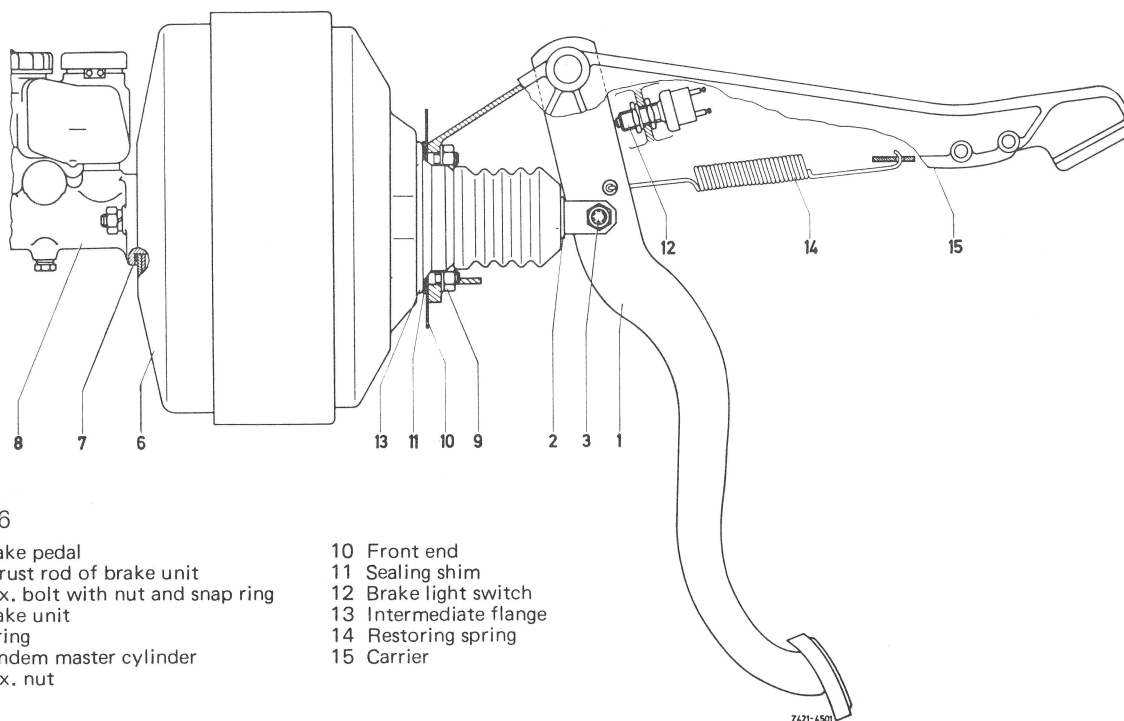

Fig. 6
6 Unscrew hex. screw (3) and remove bushing (4) from brake pedal (1), so that the push rod of the brake unit on brake pedal is released (Fig. 6 and 7).